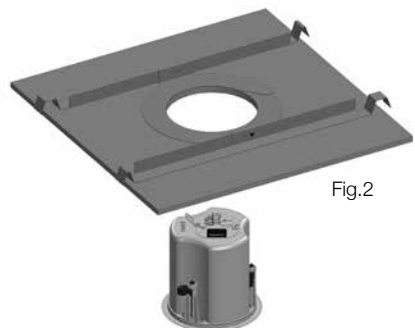

Fig.2
3. Place the C-Ring and tile-bridge on top of the ceiling panel, aligning the C-Ring over the hole, and screw the C-Ring to the tile bridge using the fixings provided. (Fig.2)
5. Slide the speaker assembly through the hole. Turn the screws (denoted "Screw Fix") clockwise on the front of the speaker to extend the mounting wings. Tighten the screws until a firm grip is achieved. (NOTE: Screws have a PoziDriv head; use of a PoziDriv driver is recommended). If using a power driver, Tannoy recommends a torque setting of 1.5 Nm. (Fig.2)